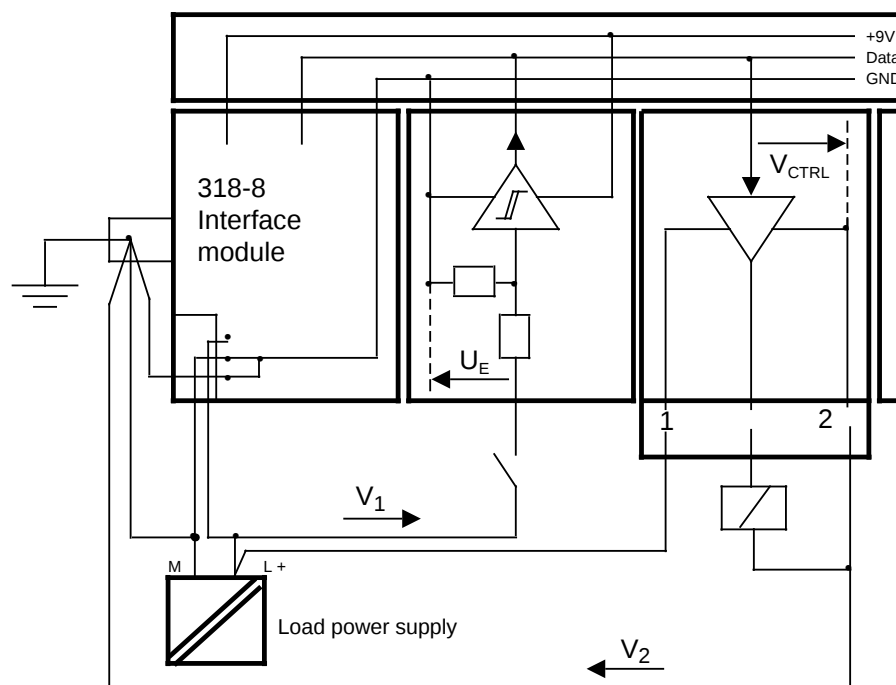

Figure 3-58 Simplified Description of Nonisolated Modules
Nonisolated modules can be used where the load circuit and the control circuit have the same ground. This is the case if they share the same power supply (3.3.1). In the case of nonisolated input modules, the GND line (control circuit ground) on the I/O bus is the reference potential. A voltage drop V_1 on line  affects the input signal level V_I (Figure 3-58).
In the case of nonisolated output modules, terminal 2 (M) of the terminal block is the reference potential. A voltage drop of V_2 on line  raises the ground potential of the output driver and thus reduces the resulting control voltage V_{CTRL} (Figure 3-58).